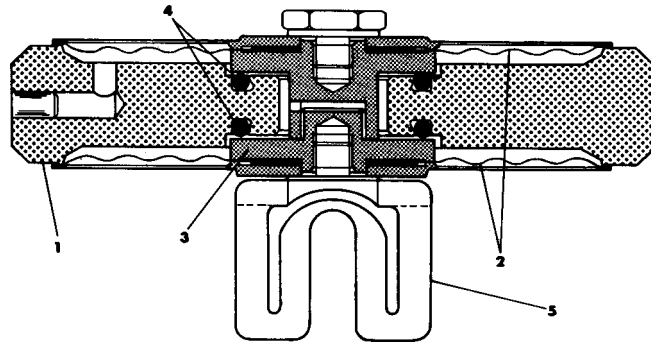

Fig. 2 - Diaphragm capsule
The diaphragm capsule (fig. 2) comprises a ring shaped core or annulus (1) to which are welded two flexible metal diaphragms (2) both diaphragms being centrally linked by a tie bar (3) through the core. The capsule is liquid filled normally with silicone oil and sealed. Two "O" rings (4) within the capsule, on each side of the core serve to seal off further liquid flow within the capsule when the limit of diaphragm movement has been reached and thus protect the capsule against overload or underload.